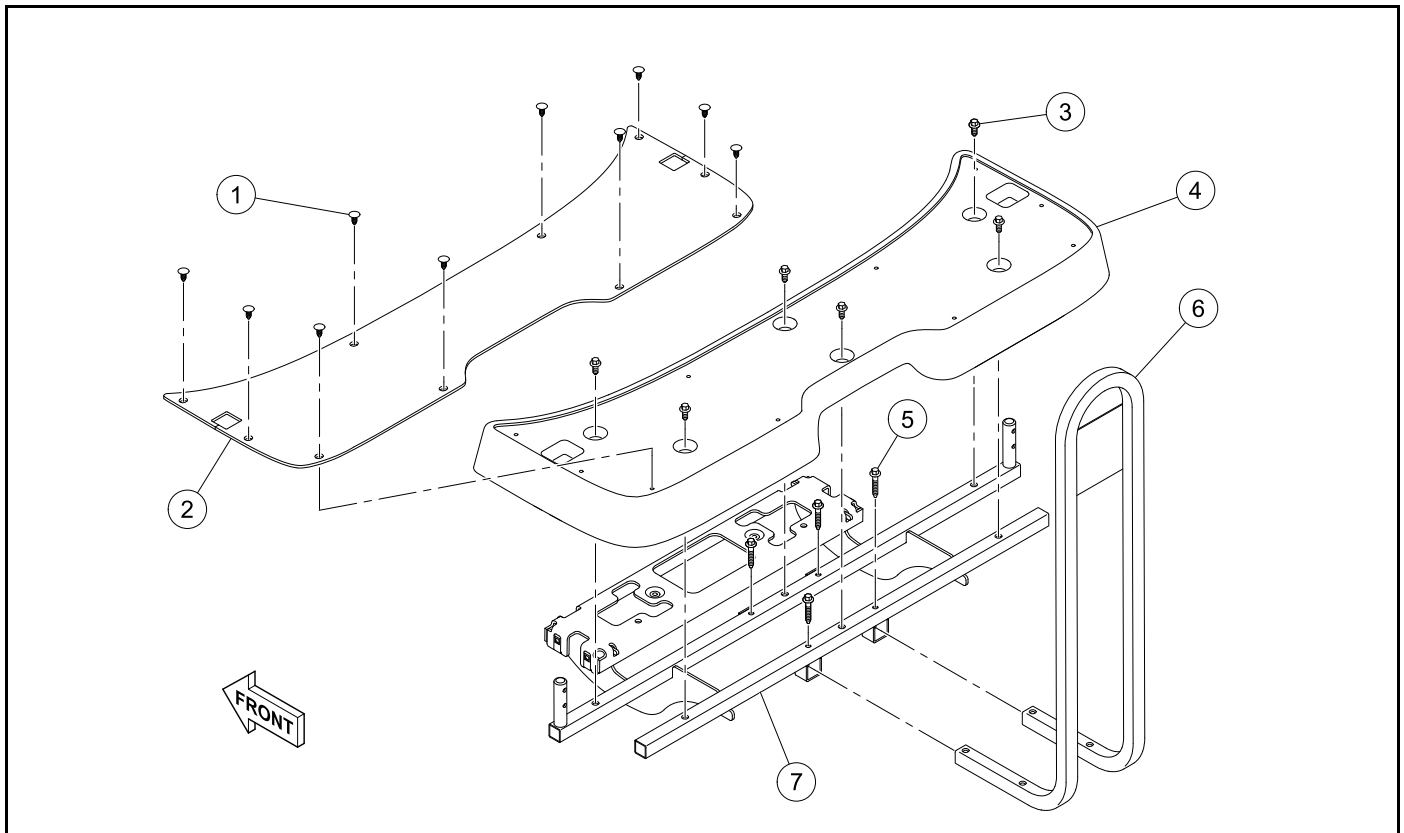

Figure 4-53 Foot Deck (2+2) Disassembly
1. Remove the push rivets (1) (**Figure 4-53**).
2. Remove the floor mat (2).
3. Remove the screws (3).
4. Remove the foot deck (4).
5. Remove the screws (5).
6. Remove the handrail (6) from the foot deck support (7).